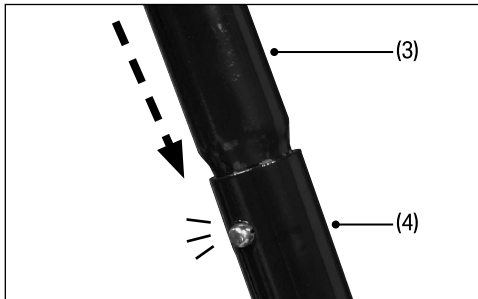

Fig. 1
- a. Attach the upper part (3) to the lower part (4) of the handle shaft using bolt supplied. (fig.1)